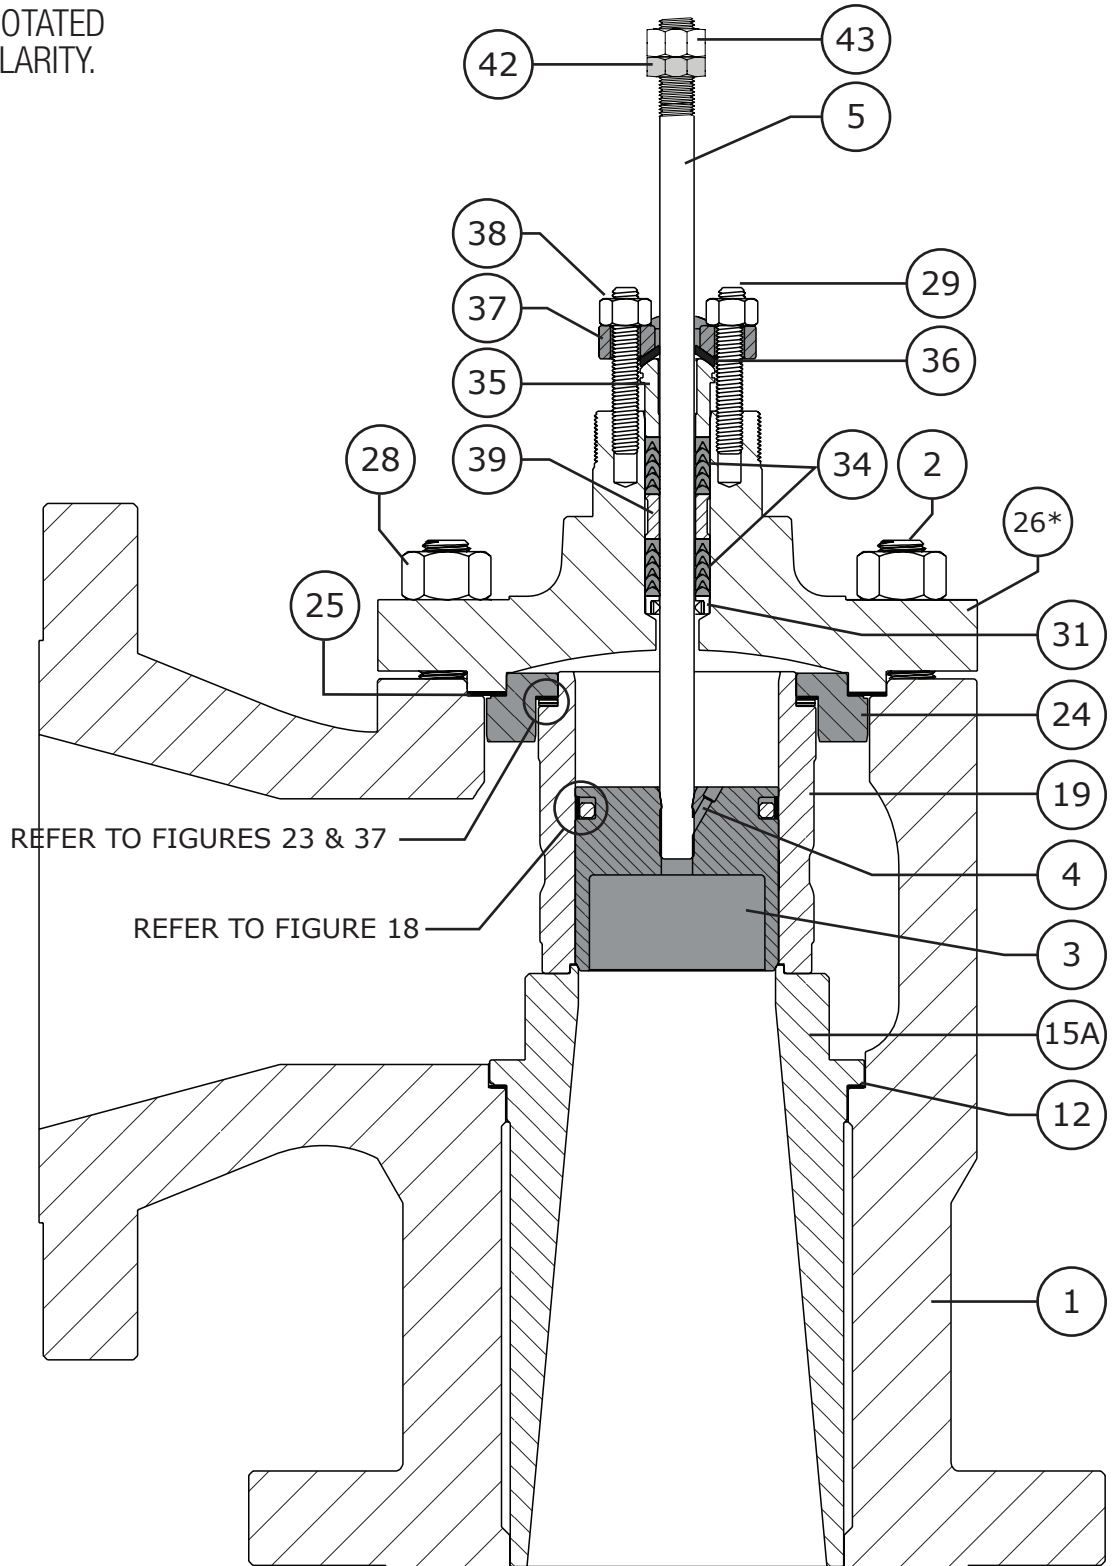

Figure 35 Angle Body Valve Cross Section
- 2 Install the seat ring (Key 15) into the valve body (Key 1). Refer to Figure 35 for Angle Body valve assemblies.